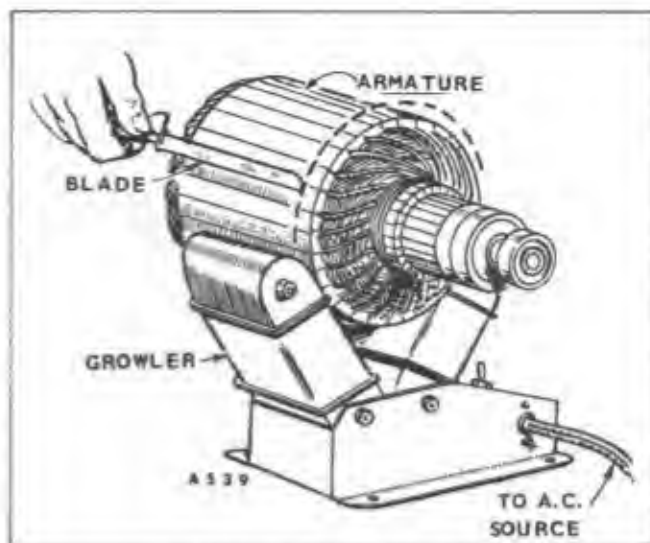

Figure 46. Testing With Growler
4. This test can only be performed with the generator disassembled and requires a growler. To test for shorts in the dc winding, place the armature in the growler. Operate the growler and pass a steel strip back and forth over and above the armature windings (Fig.46). If the strip is magnetically attracted to the armature at any point, a short is indicated. After testing in one position, rotate the armature slightly and repeat the test. Do this for one complete revolution.